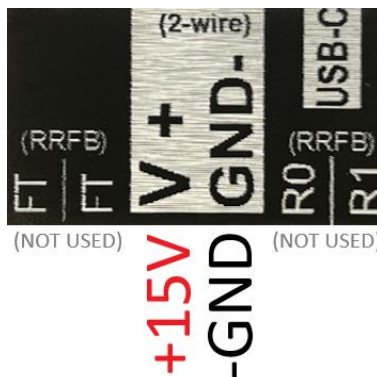

Figure 7. Guardian Duo APB wiring for 2-wire applications.
8. Connect cabinet field wires to the middle pair of screw terminals as shown below in Figure 7. The left and right terminal pairs are not used. **Ensure that the Guardian Duo APB boots up. If not, flip the wiring polarity.**